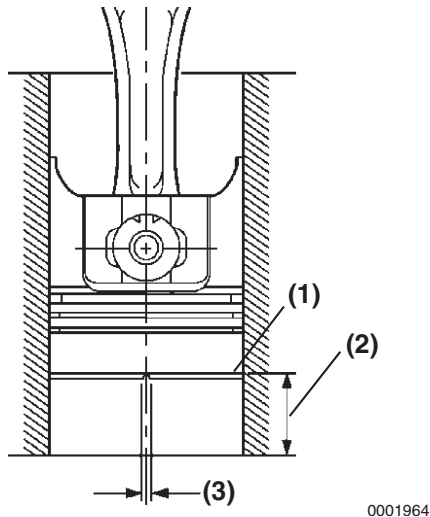

Figure 6-115
10. To measure piston ring end gap, insert each compression piston ring (**Figure 6-115, (1)**), one at a time, into the cylinder. Use a piston with the piston rings removed to slide the ring into the cylinder bore until it is approximately 1.18 in. (30 mm) (**Figure 6-115, (2)**) from the bottom of the bore. Remove the piston. Measure the end gap (**Figure 6-115, (3)**) of each piston ring. Record the measurements. See *Piston Ring* on page 6-17 for specifications.